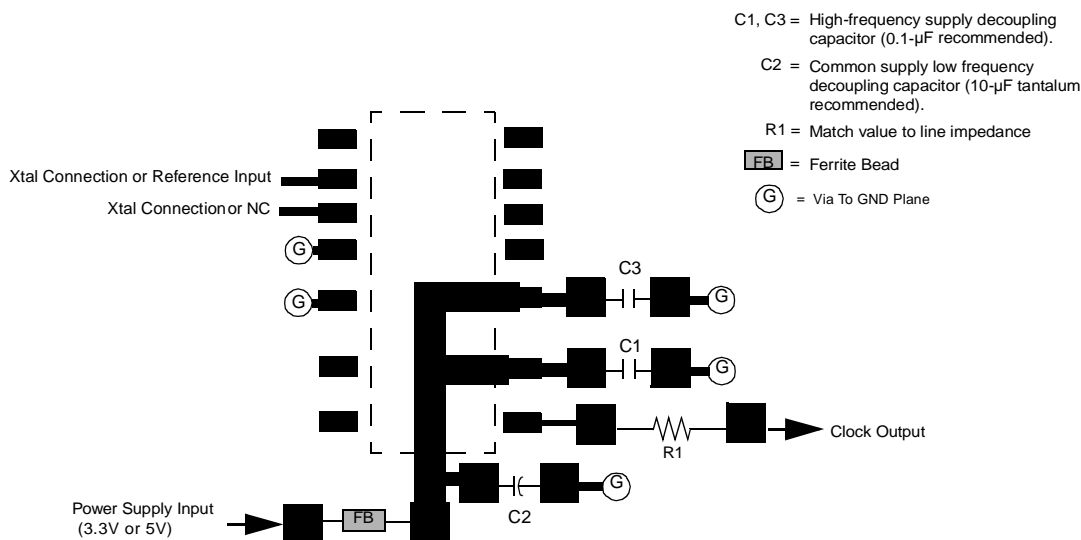

Figure 5. Recommended Board Layout (2-Layer Board)
*Figure 5* shows a recommended a 2-layer board layout.